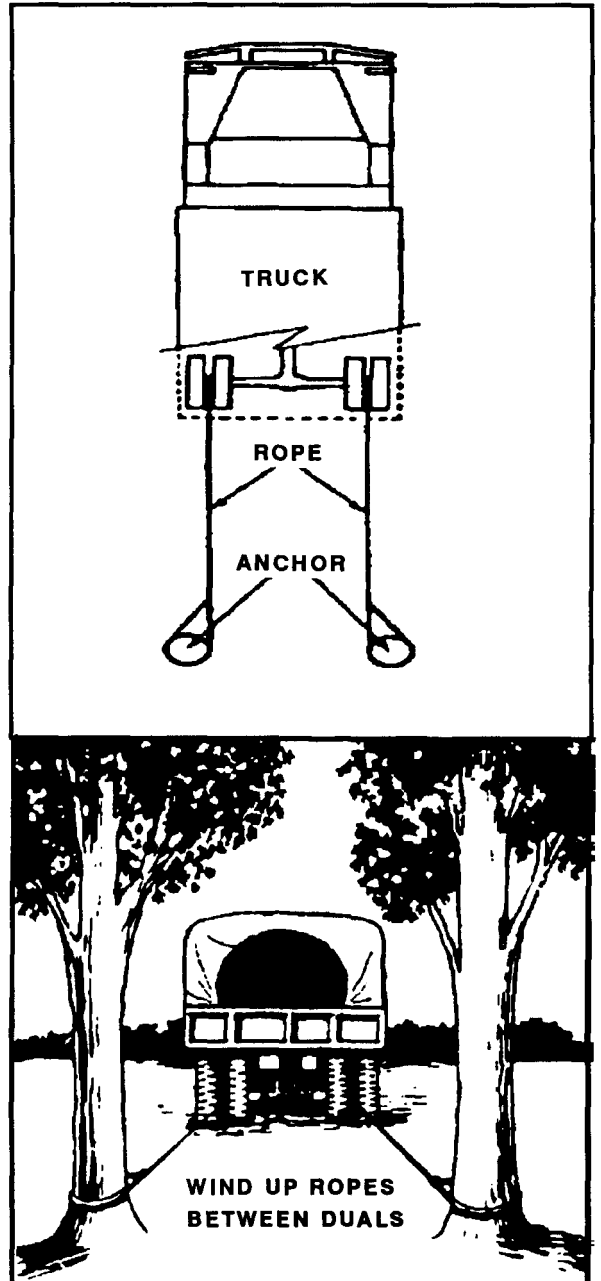

FIGURE 22-4. Dual Wheels and Rope Used as a Winch.
*Vehicle Without Winch (Dual Wheels).* Dual wheels and ropes may be used to winch out vehicles not equipped with winches (Figure 22-4). Fasten one end of each rope to a rear wheel hub and the other to an anchor. Place the rope between the duals and through one of the holes in the wheel disk. Tie the rope around the hub where it will be clear of the valve stem. Move the vehicle in reverse gear to wind the rope.